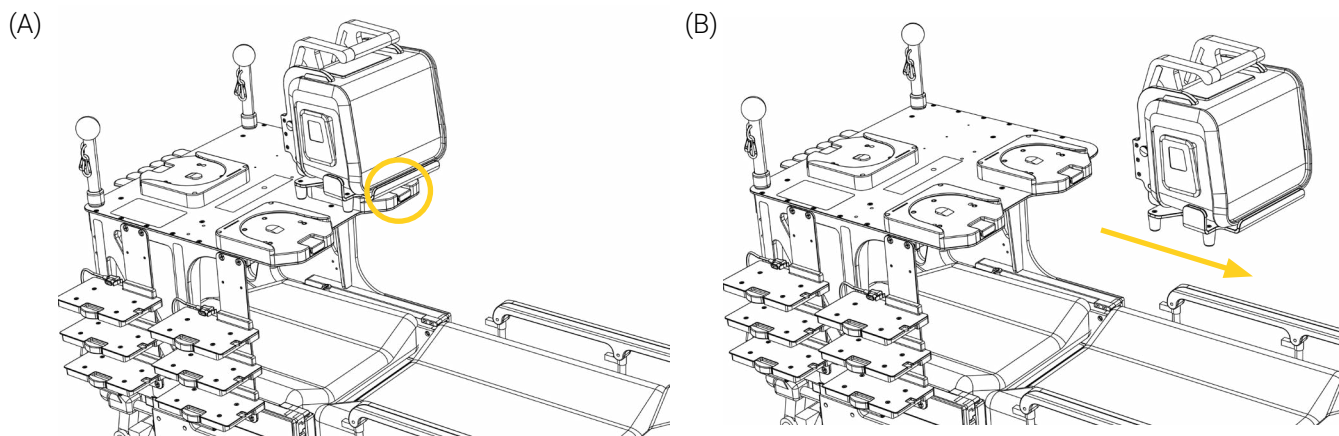

Figure 13: Removing the medical device from the mobile structure
1. Press and hold the quick release button of the Standard Surface Base (Figure 13 A), then pull the medical device horizontally out of the base using the handle (Figure 13 B).